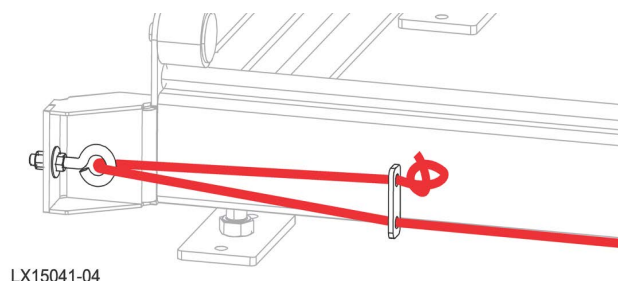

FIG. 3-17
5. Assemble the feed rope eyebolt in the rear bumper bracket as shown in Figure 3-17.
6. Thread the feed rope through the rope lock plate, the eyebolt, and back through the plate as shown in Figure 3-17.